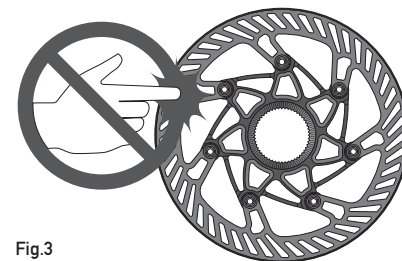

Fig.3
- Never touch the disc brake rotor, even when the bicycle is stationary. The rotor itself may be very hot, and could cause serious burns. You are also reminded to take great care when the bicycle is moving, as the rotor is sharp and could cause serious injury to the fingers if inserted into the rotor openings while in motion (Fig.3).